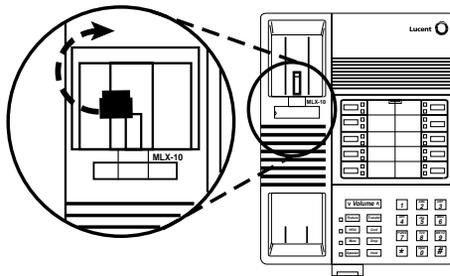

Figure 3-35. Rotating the Handset Holder
- b. Rotate the handset holder 180 degrees and replace it in its slot. See Figure 3-35.